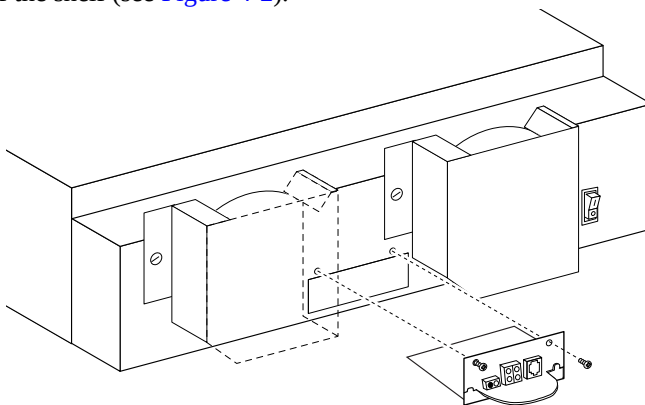

Figure 4-2. Installing EFB card
This section describes the steps to remove and replace an Environmental FaultBus (EFB) card from the shelf. The EFB card is located at the rear of the shelf (see Figure 4-2).
1. Using a Phillips screwdriver, remove the two screws from the metal plate on the card (refer to Figure 4-2).
To install an EFB card (refer to Figure 4-2), follow these steps: